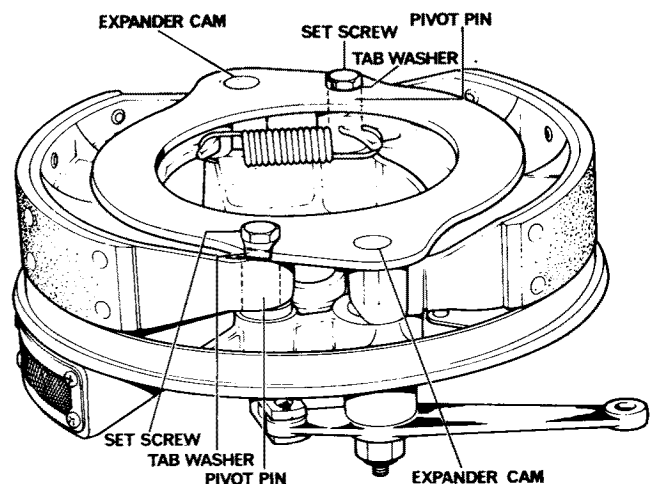

Fig. H14 Twin leading shoe brake with high performance modification
- 9 Reassembly of this brake is a straight reversal of the dismantling procedure. The brake shoes are identical. When reassembling the brake, lightly grease the expanders and expander bosses in the cover plate, the pivot pins, working areas at the end of each brake shoe and expander cam end spigots. The latter is imperative and molybdenum disulphide grease is recommended at this point. Take care to ensure that the brake shoe springs are properly fitted at both ends before the brake support plate is offered into position. If a new support plate is being fitted, *do not* open the pivot or expander cam holes at all to ease fitting, or the whole purpose of the modification to tie the pivots and expanders in a fixed relationship will be lost. After fitting the plate securing screws and tab washers, tap the tab washers into position as in Fig. H14.
Front Brake with High Performance Modification – See Fig. H14